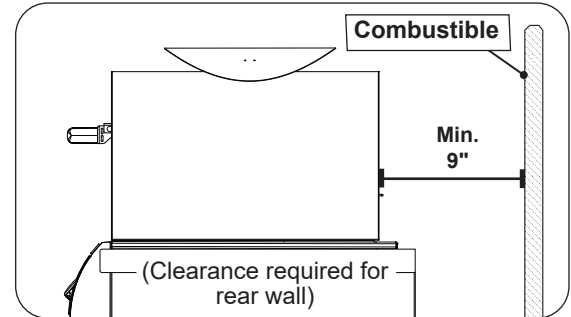

Fig. 14-3 Clearance 'C' Diagram
- The unit must have a minimum clearance of 9" from the combustible rear wall (see Fig. 14-3).